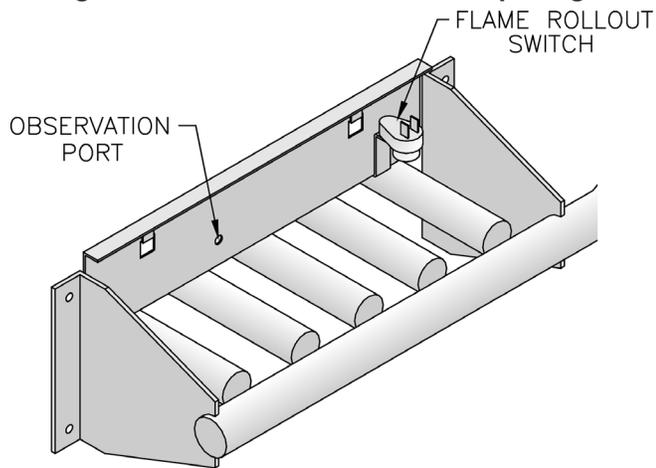

Figure 3: Burner Compartment Area
3. All boilers are equipped with a flame rollout switch located as shown in Figure 3 or 5, depending on specific boiler design. This switch will shut the burners down in the event that flames exit the burner compartment through the front opening. If this happens, the flame rollout switch must be replaced. If the boiler fails to fire, call a qualified installer, service agency or gas supplier to diagnose and correct the problem.
- Black carbon ("soot") in or near the burner compartment area. See Figure 3 or 5